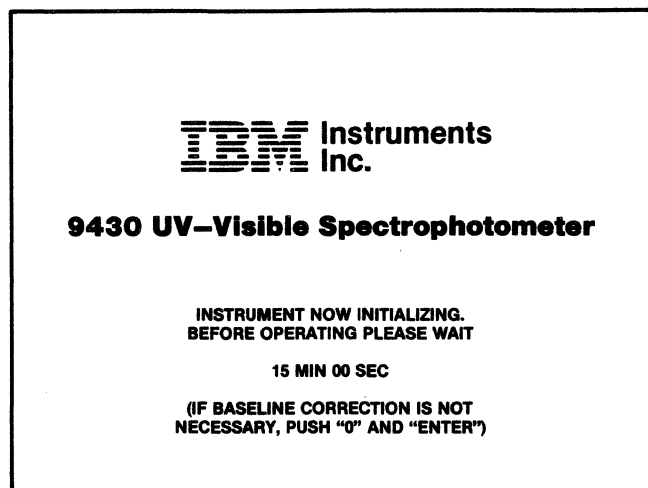

Figure 2-1. Initialization Display
The instrument will automatically begin an initialization procedure when the power is turned on. The initialization procedure consists of two parts; (1) a series of diagnostic routines and (2) a baseline correction program. The entire procedure takes approximately 17 minutes. The CRT displays a countdown of the time remaining in the initialization, as shown in Figure 2-1.